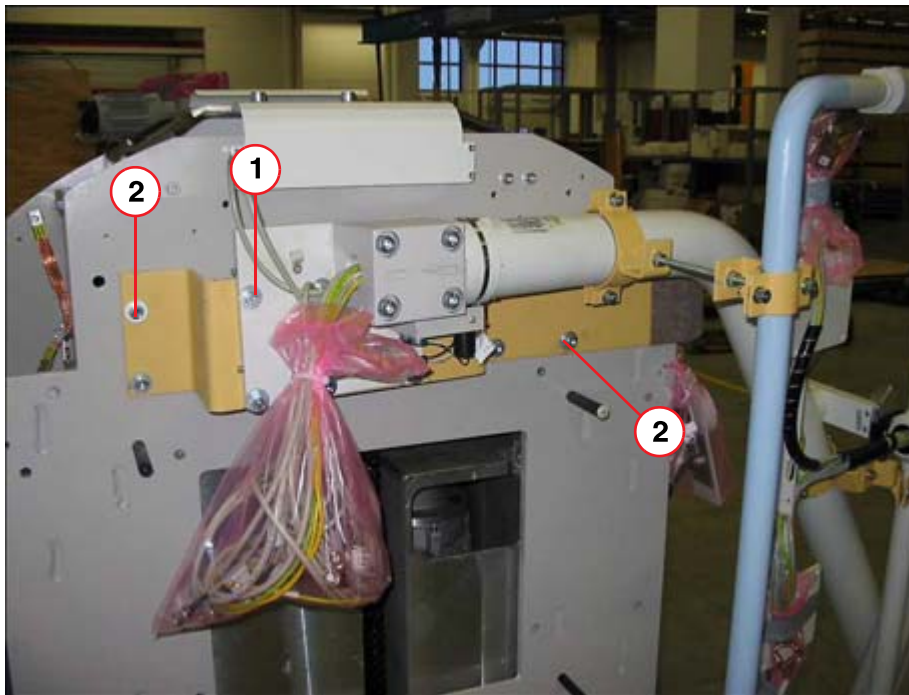

Fig. 32: Unit connection - transport
- Loosen the remaining 4 of the total of 5 cylinder-head screws M8 x 25 DIN 912 (1/ Fig. 32 / p. 30) and remove them with the underlying washers 8,2 x 20 x 2.
- Loosen all cylinder-head screws M8 x 25 DIN 912 from the wedge-shaped transport holder (2/ Fig. 32 / p. 30) and remove it.